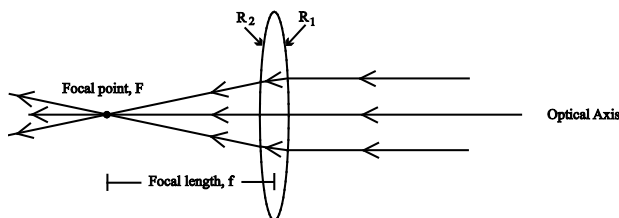

Figure 6
In your observations so far, you should have noticed that the three parallel rays from the light box all converge to one point (or thin line) after passing through the lens and then they continue to diverge after that. By definition, the point where the three initially **parallel rays** converge is called the focal point, F , of the lens. The distance between the center of the lens and the focal point is called the *focal length*, f . Figure 6 shows the refraction that occurs at each surface (R_1 and R_2) of the lens for the upper and lower rays and for the unrefracted ray that travels along the optical axis. The intersection of these three rays defines the focal length of the lens. (By default, it is the focal length of the lens in air.)
For the lensmaker’s formula that follows, we also need to know the sign convention for the radii of curvature of the two lens surfaces. In Figure 6, each surface has the same magnitude for its radius of curvature; this is not always the case. The sign convention is as follows:
The radius is positive if the surface is convex toward the object and negative if the surface is concave toward the object. In Figure 6 then, R_1 is positive and R_2 is negative.
* In Figure 6, the object is to the right of the lens.